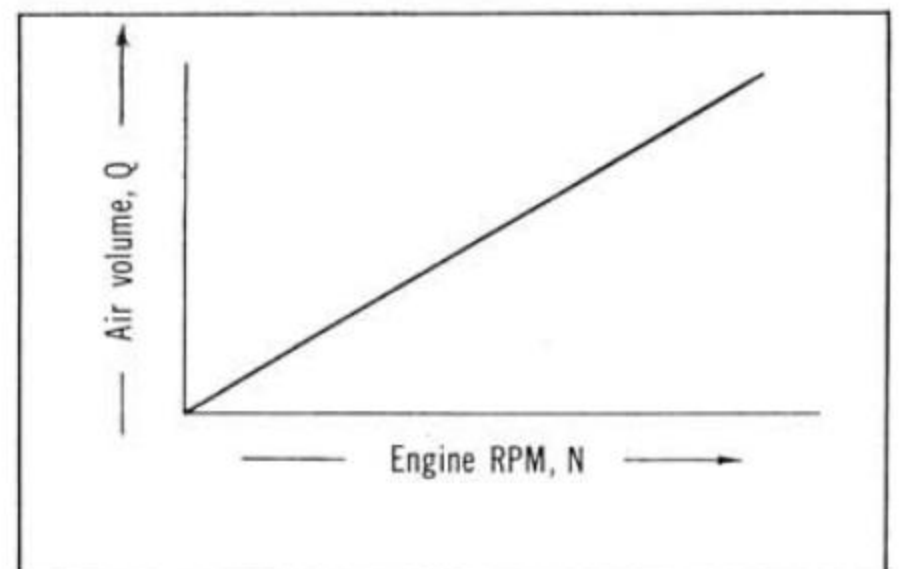

Fig. 2A-1
In order to satisfy the requirements of the engine, the volume of air taken into the engine must increase in relation to the RPM (N) of the engine, shown as Q in Fig. 2A-1. This is true with any type of carburetor used.
Disregarding the other components of the carburetor for the present and considering only the venturi, the volume of air flowing through the venturi at the air velocity V is as shown in Fig. 2A-2. In other words, the amount of air taken into the cylinder is expressed as Q in the equation below.